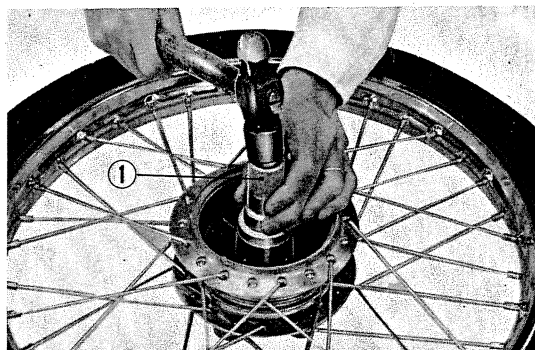

Fig. 115 Ball bearings installation
- 2) Apply grease to the wheel ball bearings and the inside of the wheel hub. Assemble distance collar and ball bearings into the wheel hub. (Fig. 115)